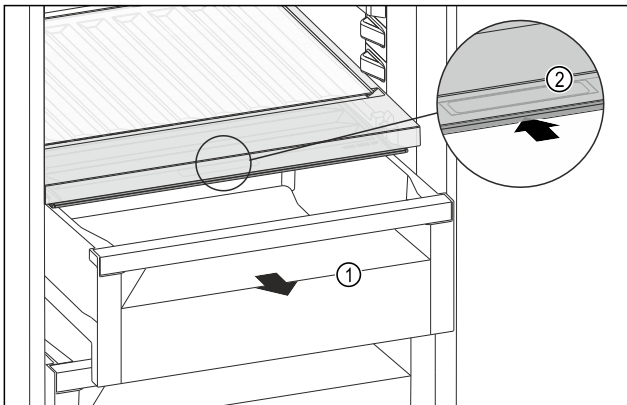

Fig. 157
- ▶ Pull out the drawer Fig. 157 (1).
- ▶ Grasp the recessed grip Fig. 157 (2) on the compartment lid and push the compartment lid backwards at the same time.